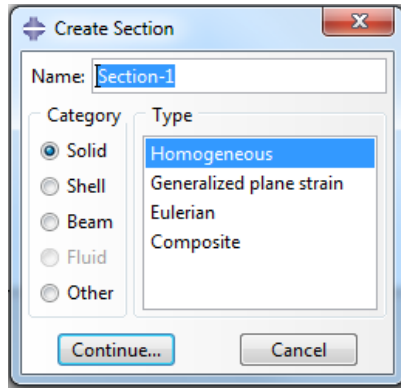
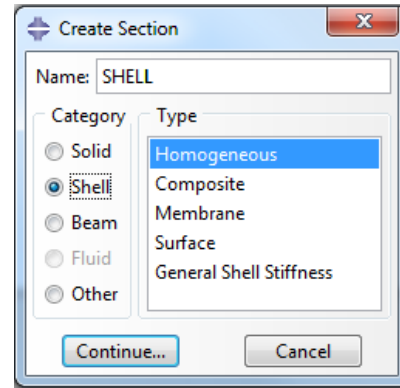

Figure 9a. Create Section Dialog Box
Figure 9b. Create Section Dialog Box (SHELL)
- To create a shell section in Abaqus, double click **Sections** in the model tree and the **Create Section** dialog box will appear (Figure 9a). Enter a **Name** for the section (SHELL), and choose **Shell** under the Category Tab, and **Homogeneous** under the Type tab. Your **Create Section** dialog box should look identical to that in Figure 9b.